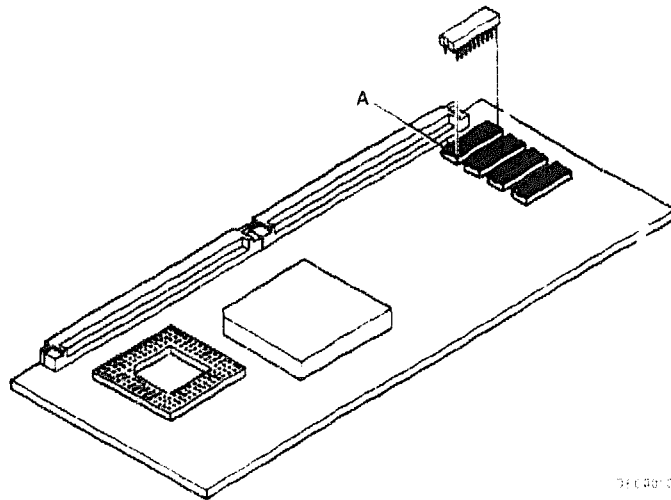

Figure 3-39 - The correct way to install a Cache Memory chip
2. Position the first SRAM chip above the first spare socket on the CPU Board. Make sure that pin 1 is properly aligned with the correct hole on the socket (Figure 3-39). The correct hole for pin 1 is marked with an A.